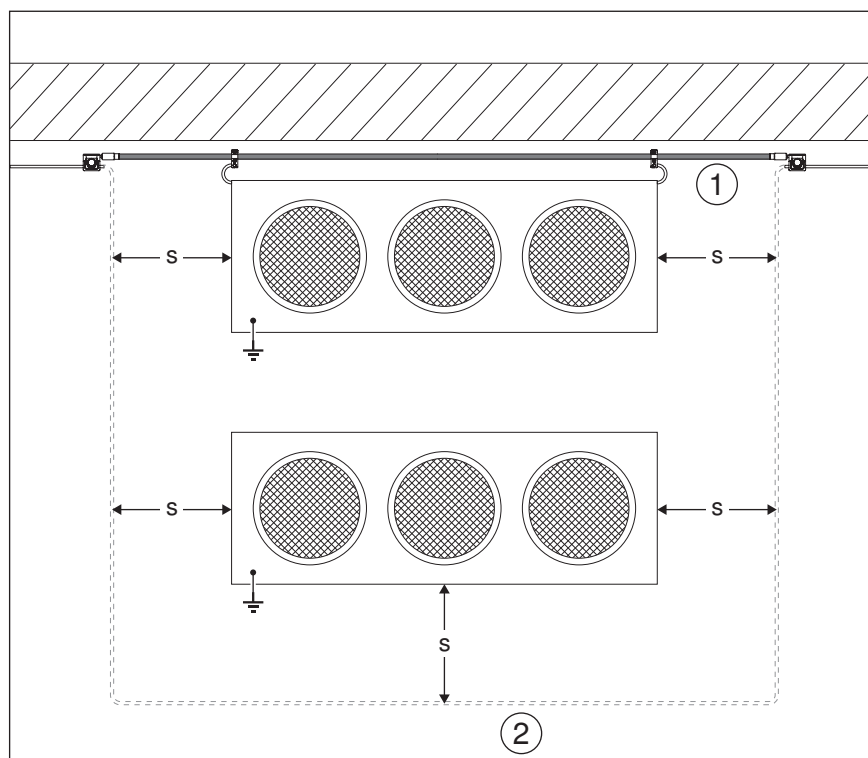

Fig. 70: Including the isCon® conductor in a conventional ring conductor
In areas in which a conventional ring conductor would be difficult to install whilst maintaining the required separation distance ( $s$ ) (e.g. to roof structures) (see Fig. 70 No. ②), the isCon® conductor ① can be integrated into the mesh, provided that the calculated separation distance is less than or equal to the equivalent separation distance of the isCon® conductor used.